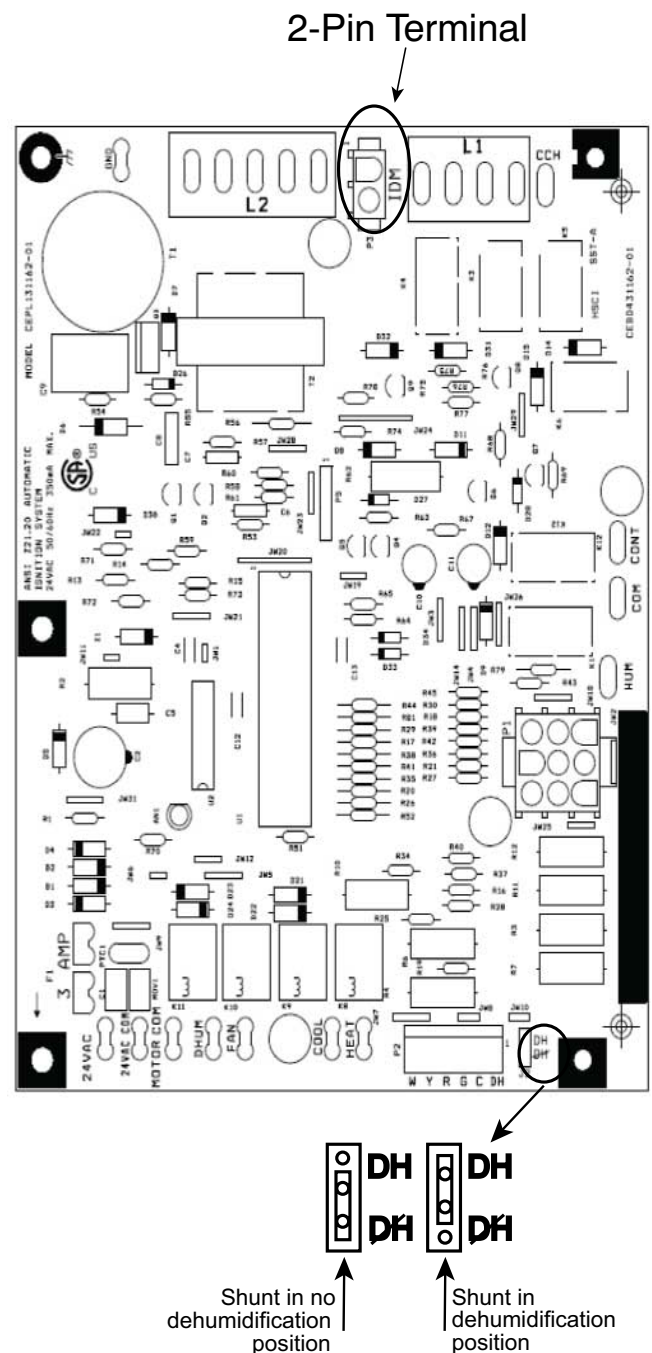

Fig. 19 – Ultra Low NOx Single Phase IGC Board
This unit is factory-set for use with a single cooling fan speed. For single phase models, the cooling speed is marked "COOL" on the IGC (See Fig. 19). The factory-shipped settings are noted in Table 9. There are up to 3 additional speed tap wires available for use in either gas heating mode, cooling mode, or continuous fan mode (For color coding on the indoor fan motor leads, see Table 7). For single phase models, one of the additional speed tap wires is connected to the continuous fan, with the other 2 wires shipped loose in the control box near the IGC. For three phase models, the additional 3 speed tap wires are shipped loose with vinyl caps and are located in the control box near the interface fan board (IFB) (See Fig. 19).
1. Move shunt jumper on IGC board to “DH” (See Fig. 19).